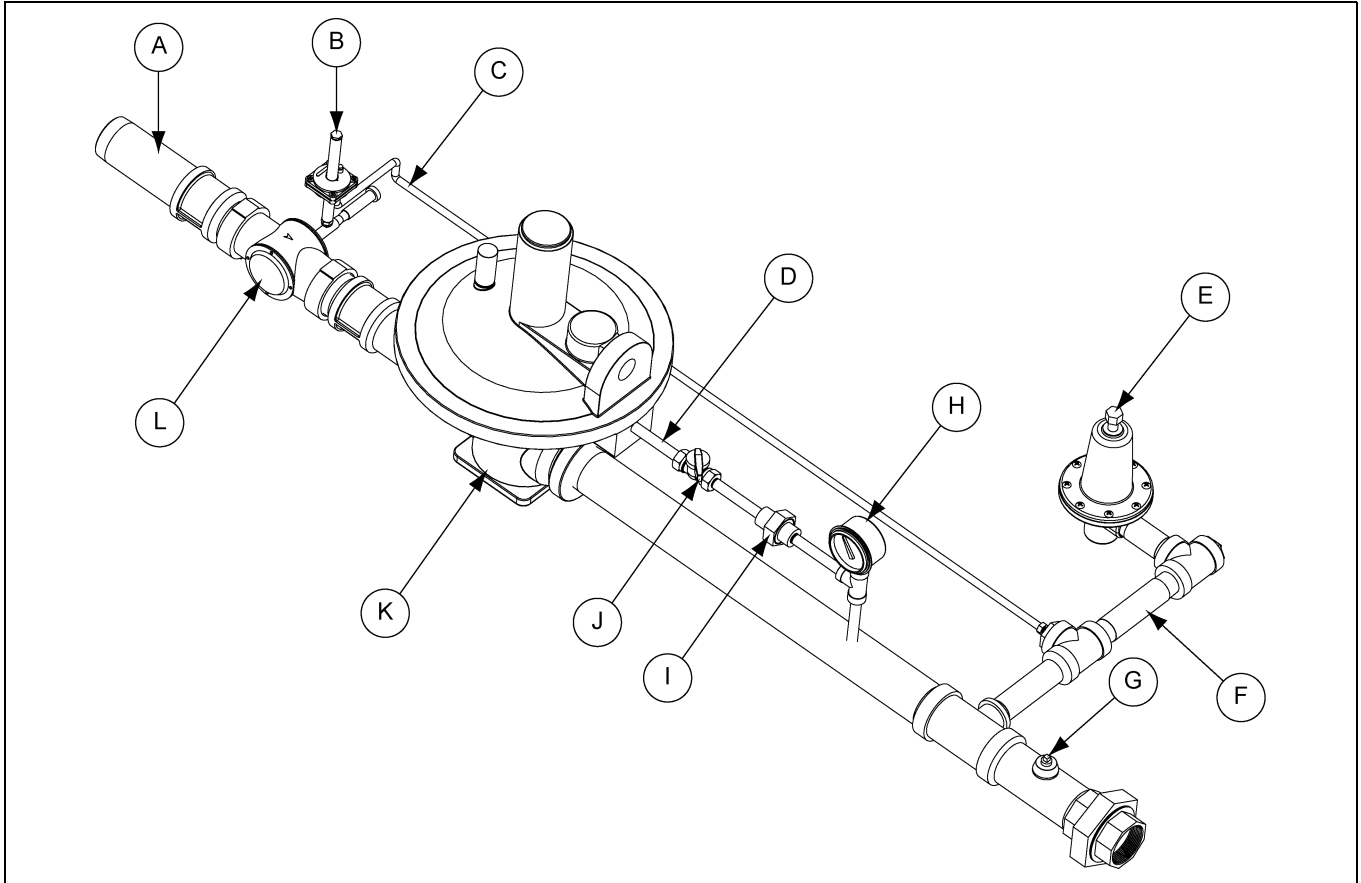

Figure 3C
2. Pressure after regulator read at sensing line gauge. (See Figure 3C on Page 23.)
4. Relief valve. (See Figure 3C on Page 23.)
5. OPSO valve. (See Figure 3C on Page 23.)